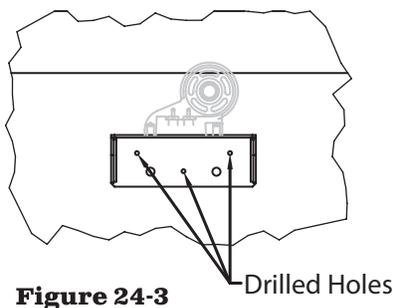

Figure 24-3
- 4) Position the driver's side mounting bracket to the point marked on the driver's side (B). Note the (D) offset dimension for your pivot size. Clamp the mounting bracket into position.
- 5) **Figure 24-3.** Drill 2-3 17/32" holes.